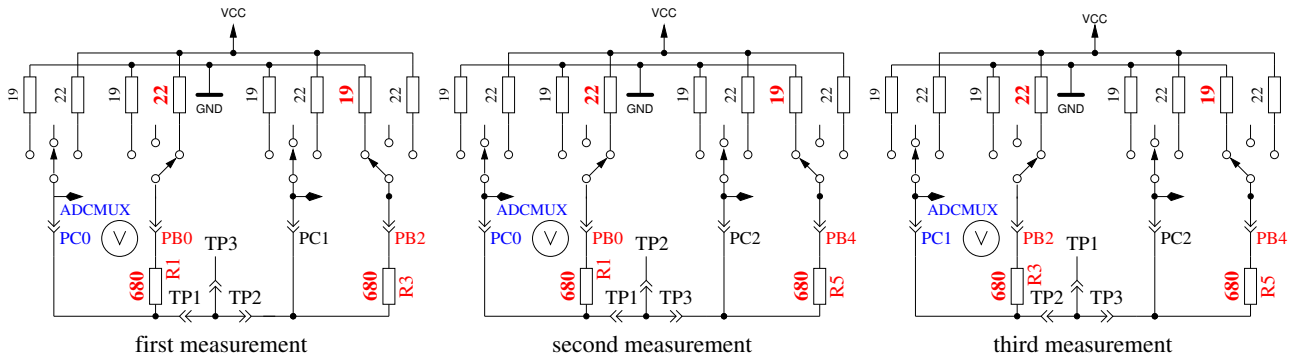

Figure 5.65. Comparison of 680Ω resistors
2. **Comparing of the 680Ω resistors.** In row 1 the cryptic text “+RL- 12 13 23” is shown. Meaning of this is as follows: The RL is the short form of Resistor Low meaning the 680Ω resistors. The 12 stand for: resistor at pin 1 is connected to VCC (+) and resistor at pin 2 is connected to GND (-). The result of this measurement is displayed in row 2 at the first place as difference to the theoretical value. In row 1 follows now a “13” which means, that the first connection of measurement 1 is still connected with 680Ω to VCC but that the resistor of pin 3 is connected to GND. The result is displayed in the middle place of row 2 as difference to the theoretical value. The last measurement of this test “23.” means that now the resistor at pin 2 is connected to VCC (+) and the resistor of pin 3 is connected to GND. The result of measurement is displayed at the last place of LCR row 2 as difference to the theoretical value. Please remember, that the resolution of the ADC is about $4.88mV$! The measurement situation is also shown in figure 5.65. The theoretical value with respect to the internal resistance of the pins should be: